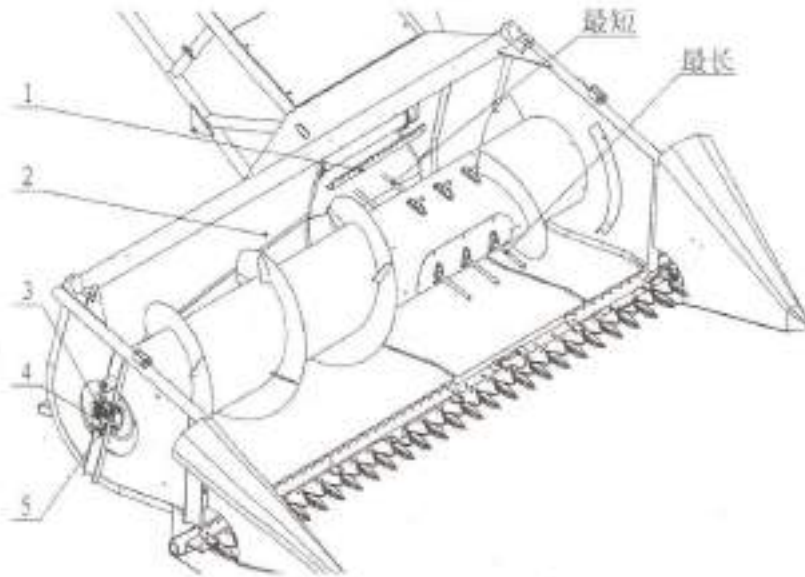

Figure 6 Adjustment of the Spiral Conveyor of the Cutting Table
III. Adjustment of the Spiral Conveyor of the Cutting Table, see Figure 6
The spiral conveyor of the cutting table has been adjusted when leaving tile factory. When the extension lever turns to the side of the feed port of the conveyor groove, it should be retracted to the shortest length; when turning to the side of the base plate of the cutting table it should have a gap larger than 5 mm with the base plate. When adjustment is needed, first loosen the nut(3) on the left support seat of the spiral conveyor move the eccentric axle adjustment block(4)to reach the requirement then lock the nut (see Figure 6).